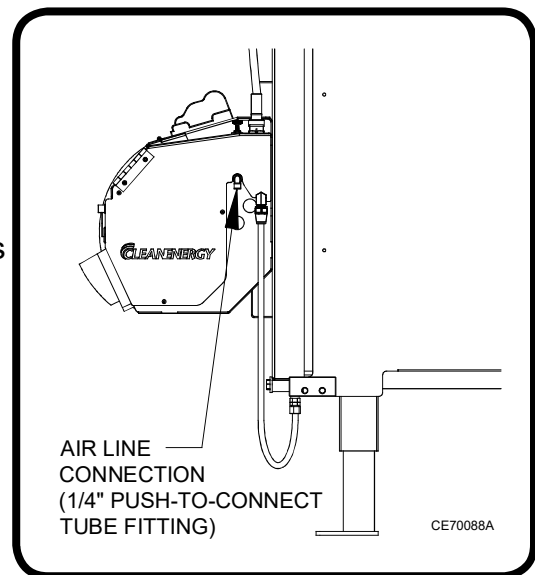

Figure 19: Installing the Air Line
- (1) Refer to Figure 19.
- (2) mount a water trap / air regulator (adjusted to 50 psi) and shut-off valve close to the boiler.
- (3) Run a flexible hose to the air inlet on the side of the burner. Carefully secure the air line to ensure it does not come in contact with any hot metal surfaces.